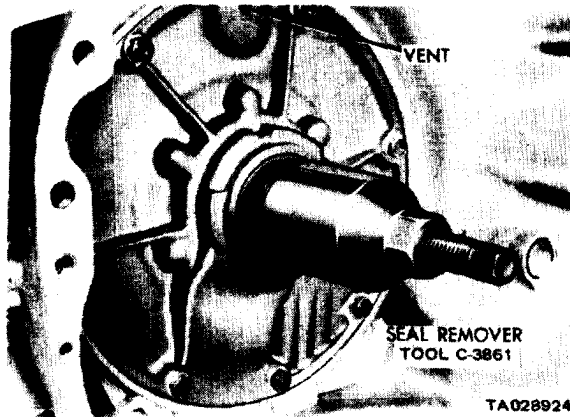

Figure 18-2. Removing Pump Oil Seal.
(1) Screw a seal remover (tool C-3861) into the seal as shown in figure 18-2.